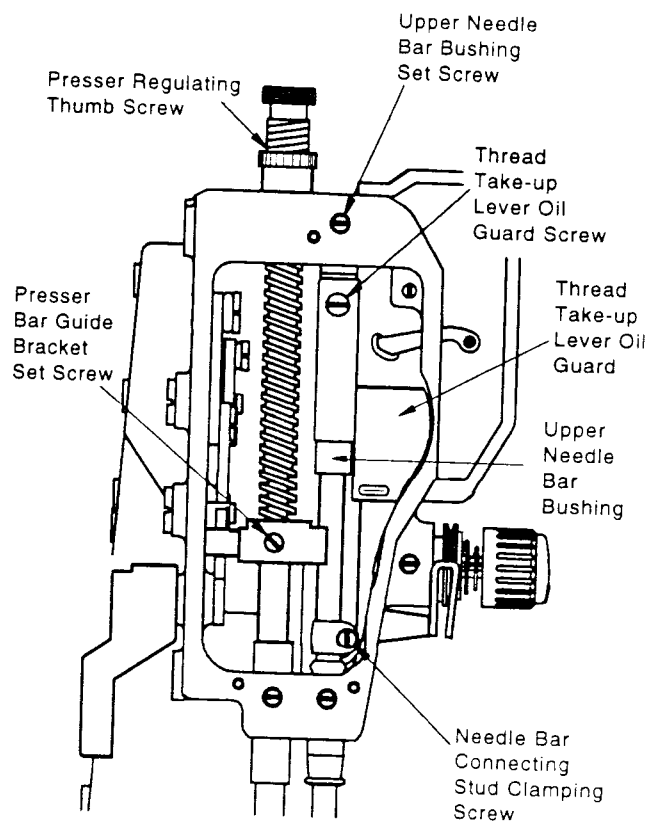

Fig.22
3. Loosen presser bar guide bracket set screw just enough to move the presser bar. Slide presser bar up through presser bar bushing and out of machine. (Fig. 22)
- Replace presser regulating thumb screw. (Fig. 22, page 14)